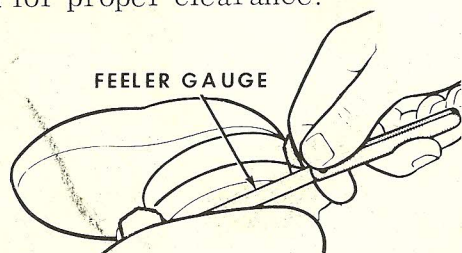

Figure M-26
2. Install the rod and cap onto the crankshaft and using a feeler gauge check for side clearance in the crankshaft journal Figure M-26. Refer to Specification Section for proper clearance.